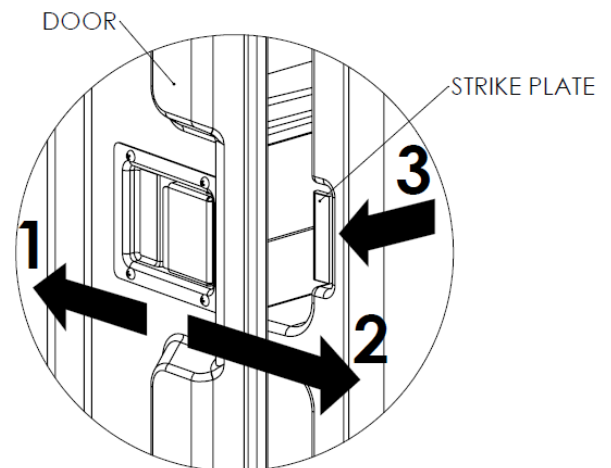

FIG. 2
- PUSH THE LATCH TOWARD THE DOOR HINGE (DIRECTION 1) APPROXIMATELY 1/8" (SEE FIG. 2)
- PUSH THE LATCH IN DIRECTION 2 APPROXIMATELY 1/8" (SEE FIG. 2)
- PUSH THE STRIKE PLATE TOWARD THE FRONT (DIRECTION 3) APPROXIMATELY 1/16" (SEE FIG. 2)